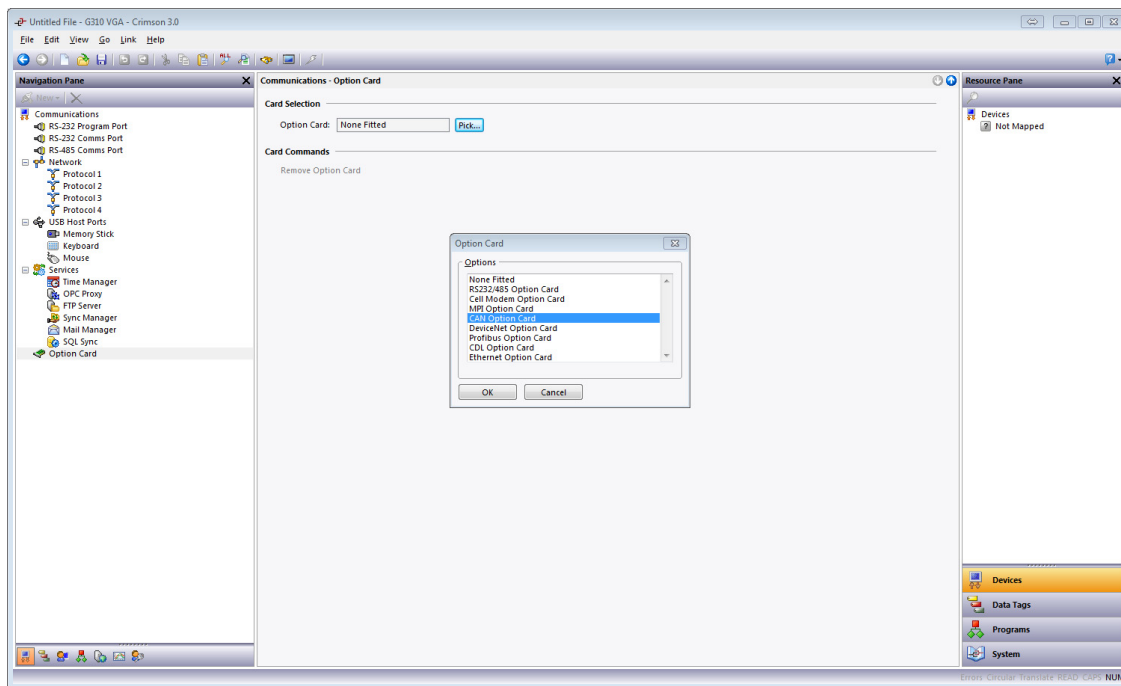
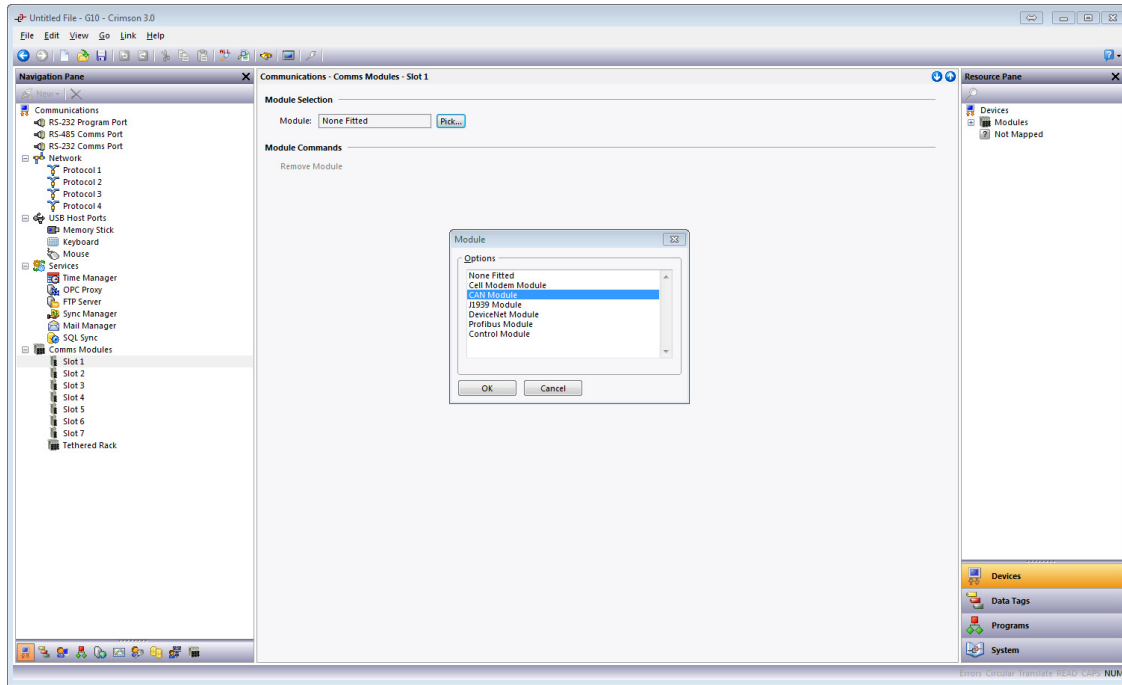
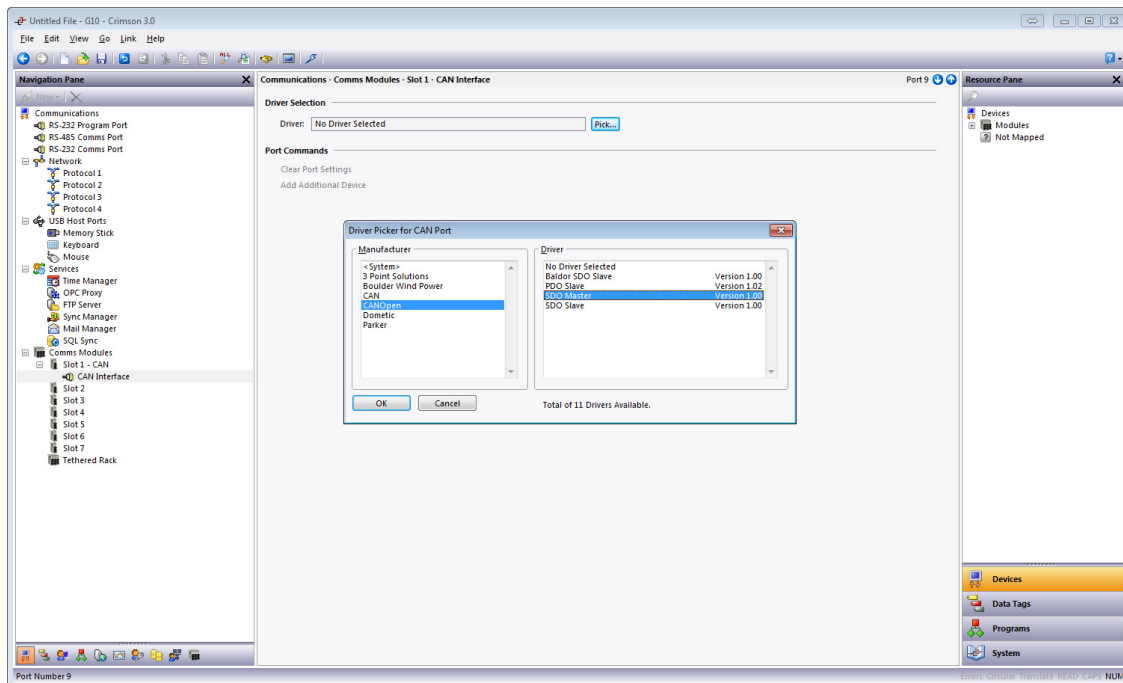

Figure 1.
Figure 2.
Figure 3.
4. **If configuring a CAN Option Card:** Refer to Figure 1 and go to the Navigation Pane and select *Option Card*; the Communications - Option Card popup appears. Select the *Pick* button; the Option Card popup appears. Select *CAN Option Card* from the Options list and click the *OK* button; Figure 3 appears and CAN Option Card is appended at the end of the tree shown in the Navigation Pane.
If configuring a CAN Module: Refer to Figure 2 and go to the Navigation Pane and select *Slot 1*; the Communications - Comms Modules - Slot 1 popup appears. Under Module Selection, click on the *Pick* button; the Module popup appears. Select *CAN Module* from the Options list and click the *OK* button; Figure 3 appears.
1. Referring to Figure 3, go to the Navigation Pane and select *CAN Interface*.